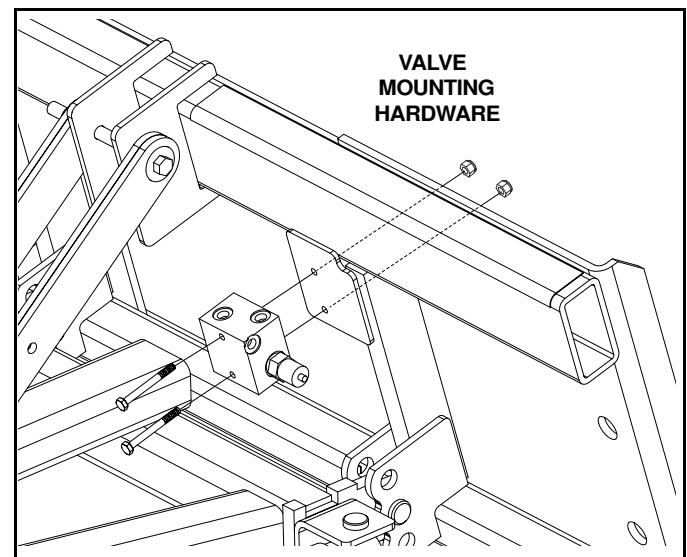

Figure 2-10
3. 26SKD Only: Install cross over relief block to face of Universal Adapter Plate. (See Figure 2-10)